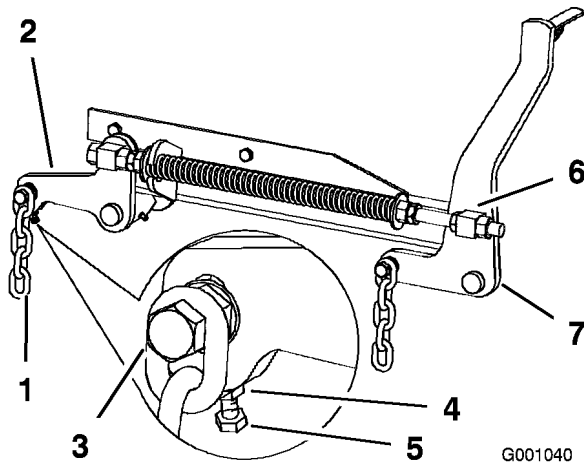

Figure 61
- If the measurements at positions **B** or **C** are not correct, loosen the bolt attaching the rear chain to the rear support arm (Figure 61).
- Loosen the jam nut under the rear support arm and adjust the adjustment bolt to get a measurement of 3-1/8 to 3-1/4 inches (Figure 61).
- Loosen the front swivel jam nuts, at the front of the right and left swivels, approximately a 1/2 inch (13 mm) (Figure 61).
- Adjust the lift nuts on both the left and the right side of the machine to achieve 1/4 to 3/8 inch (6 to 10 mm) lower in front at **A** than in the rear at **B** (Figure 61).